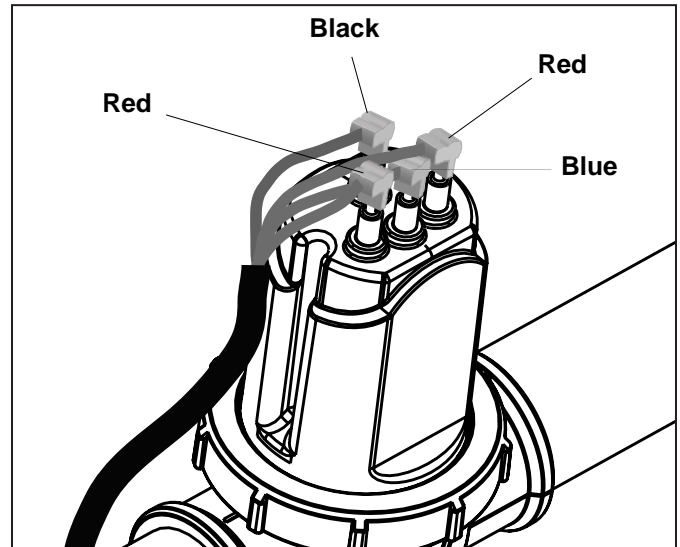

Figure 15. Connecting Cell Leads
15. Securely connect the cell leads to the like colored terminals (see Figure 15).